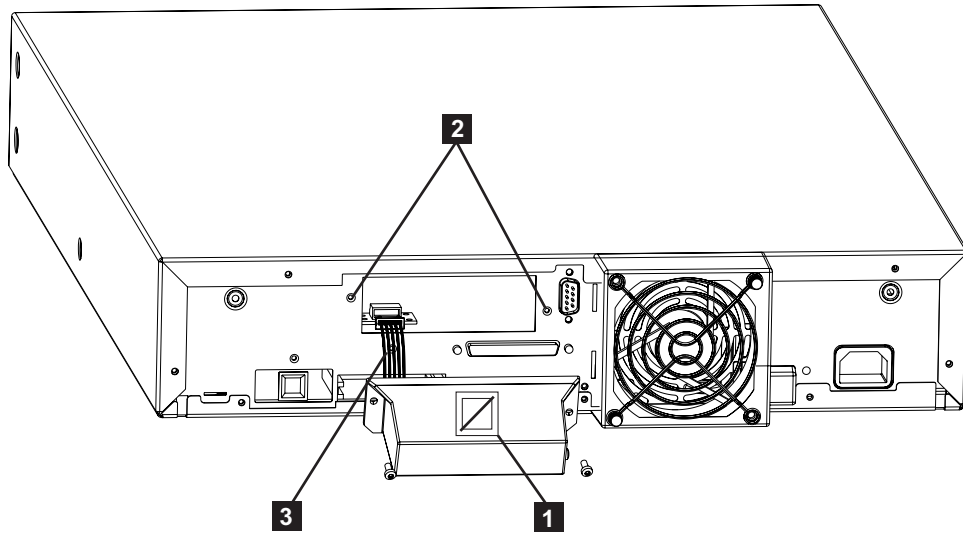

Figure 139. Removing/replacing the BCR
**Note:** See Figure 139 on page 210.